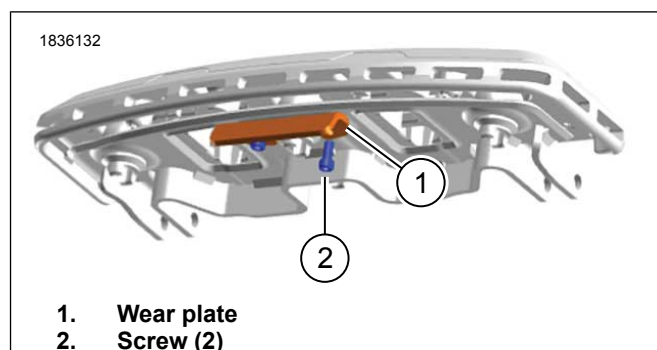

Figure 4. Floorboard Wear Plate
1. See Figure 4. When servicing wear plate (1), remove existing wear plate screws (2).